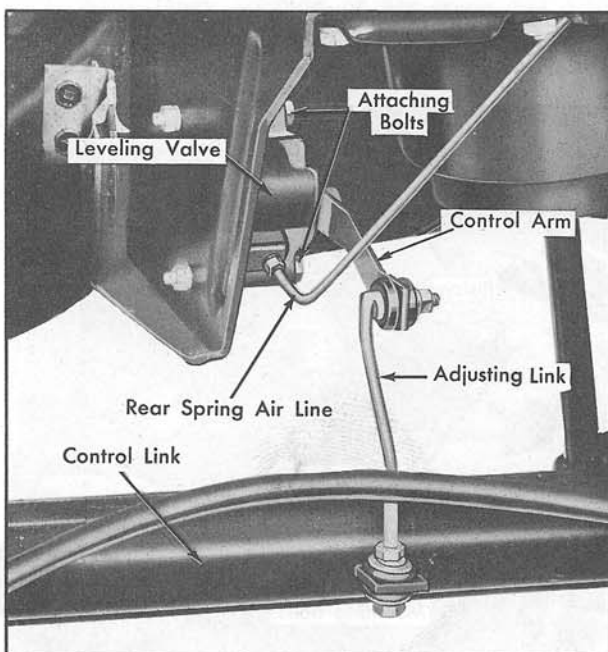

Fig. 4-21 Rear Leveling Valve
4. Disconnect adjusting link at leveling valve control arm, Fig. 4-21.